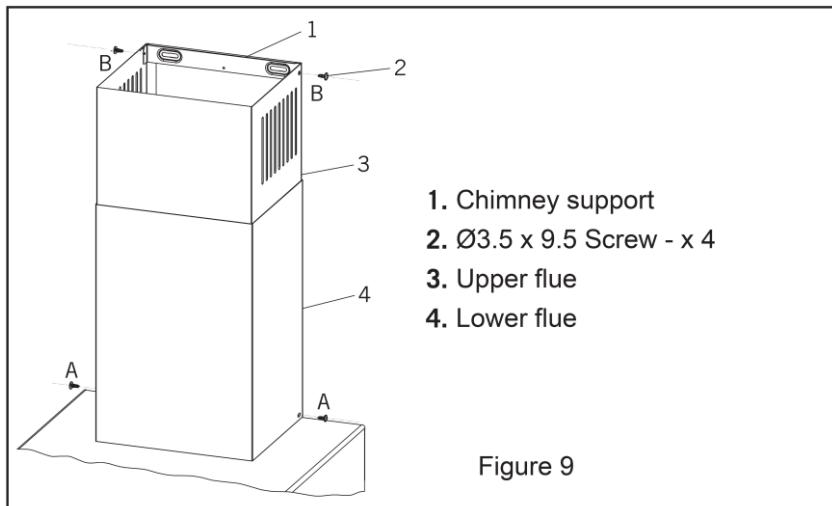

Figure 9
- c) Place the assembly between the main body of the hood and the ceiling, fix the lower part of the chimney using screws **A** (3.5 x 9.5 mm), see figure 9.
- d) Then fix the upper part of the chimney to support **1** using screws **B** (3.5 x 9.5 mm), see figure 9.